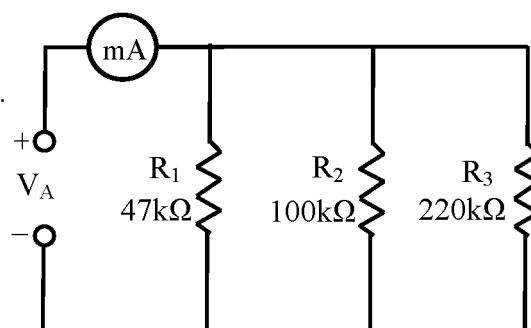

Figure 19-1
- Connect the circuit as shown in Figure 19-1.